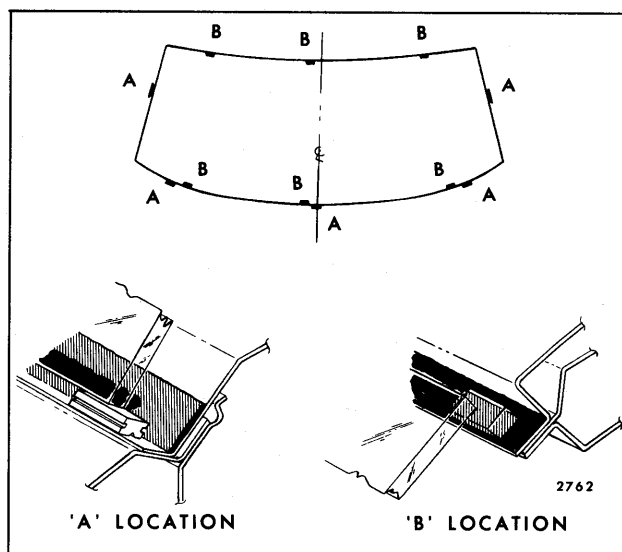

Fig. 4-7—Glass Spacer Installation
4. Using black weatherstrip adhesive or adhesive caulking material, cement flat rubber spacers #4459429 or equivalent to window opening pinchweld flanges. As shown in Figure 4-7, location "B", spacers should be positioned to provide equal support around entire perimeter of glass.
5. Using black weatherstrip adhesive or adhesive caulking material, cement rectangular spacers #4871330 (.34 x .44 x 1.0) or equivalent to window opening rabbet to support lower edge of glass and restrict lateral movement. Figure 4-7, location "A", illustrates rectangular spacers positioned in a typical windshield installation. On smaller glasses, only 2 rectangular support spacers are required across the bottom.